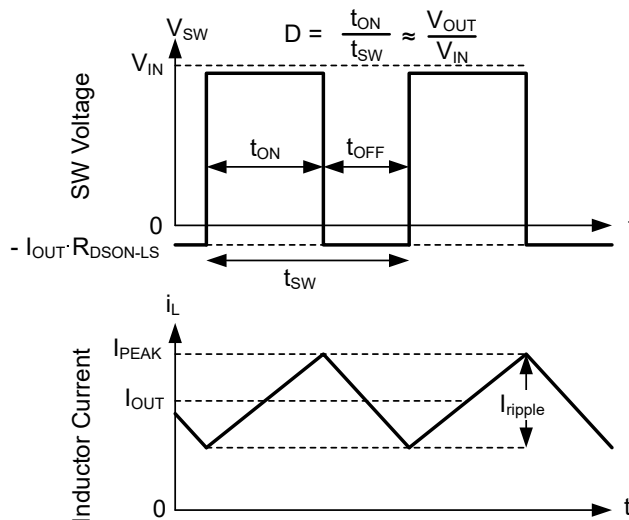

図 7-16. SW Voltage and Inductor Current Waveforms in Continuous Conduction Mode (CCM)
The following operating description of the device refers to セクション 7.2 and to the waveforms in 図 7-16. In CCM, the device supplies a regulated output voltage by turning on the internal high-side (HS) and low-side (LS) switches with varying duty cycle (D). During the HS switch on time, the SW pin voltage,  $V_{SW}$ , swings up to approximately  $V_{IN}$ , and the inductor current,  $i_L$ , increases with a linear slope. The HS switch is turned off by the control logic. During the HS switch off time,  $t_{OFF}$ , the LS switch is turned on. Inductor current discharges through the LS switch, which forces the  $V_{SW}$  to swing below ground by the voltage drop across the LS switch. The converter loop adjusts the duty cycle to maintain a constant output voltage. D is defined by the on time of the HS switch over the switching period: